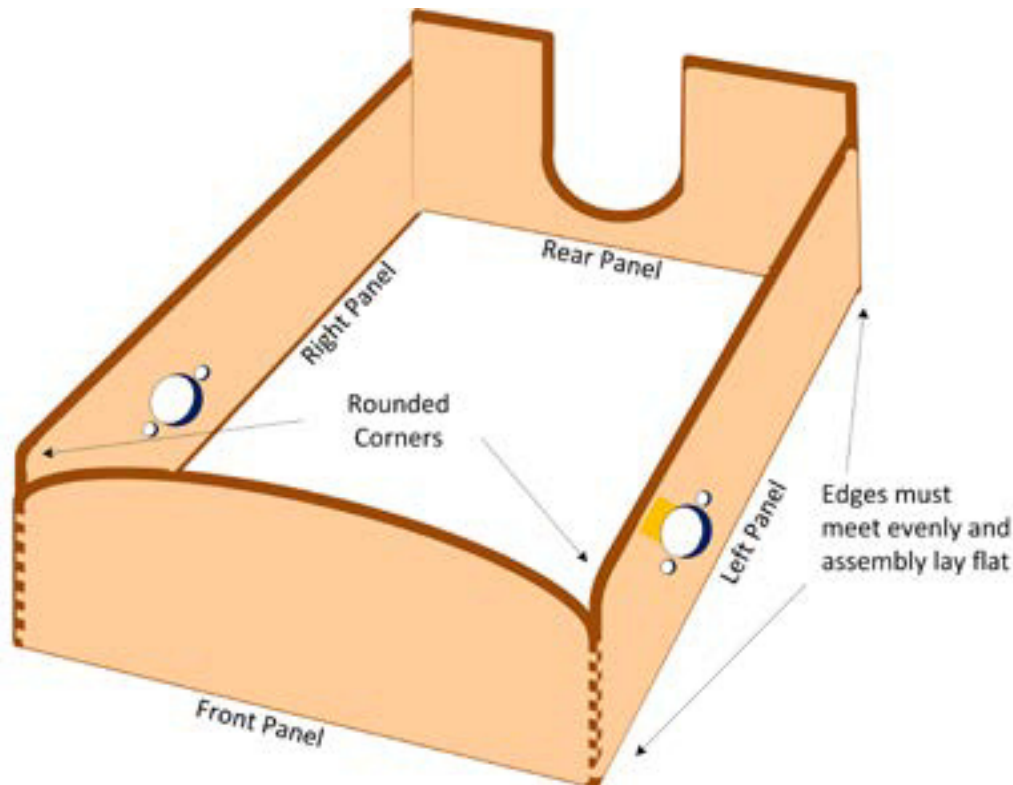

Figure HT1-1. Front, rear, and side panels of robot chassis
1. Glue the front and rear panels to the side panels as shown in Figure HT1-1.
Important	In Figure HT1-1 the panels are all upside down. It's important to ensure that: • the assembly lies perfectly flat when put together as shown. • the rectangle cutouts on the side panels are toward the front panel. • each of the corners is as close to a perfect 90-degree angle as possible. • the rounded corners of the side panels meet the rounded side of the front panel.